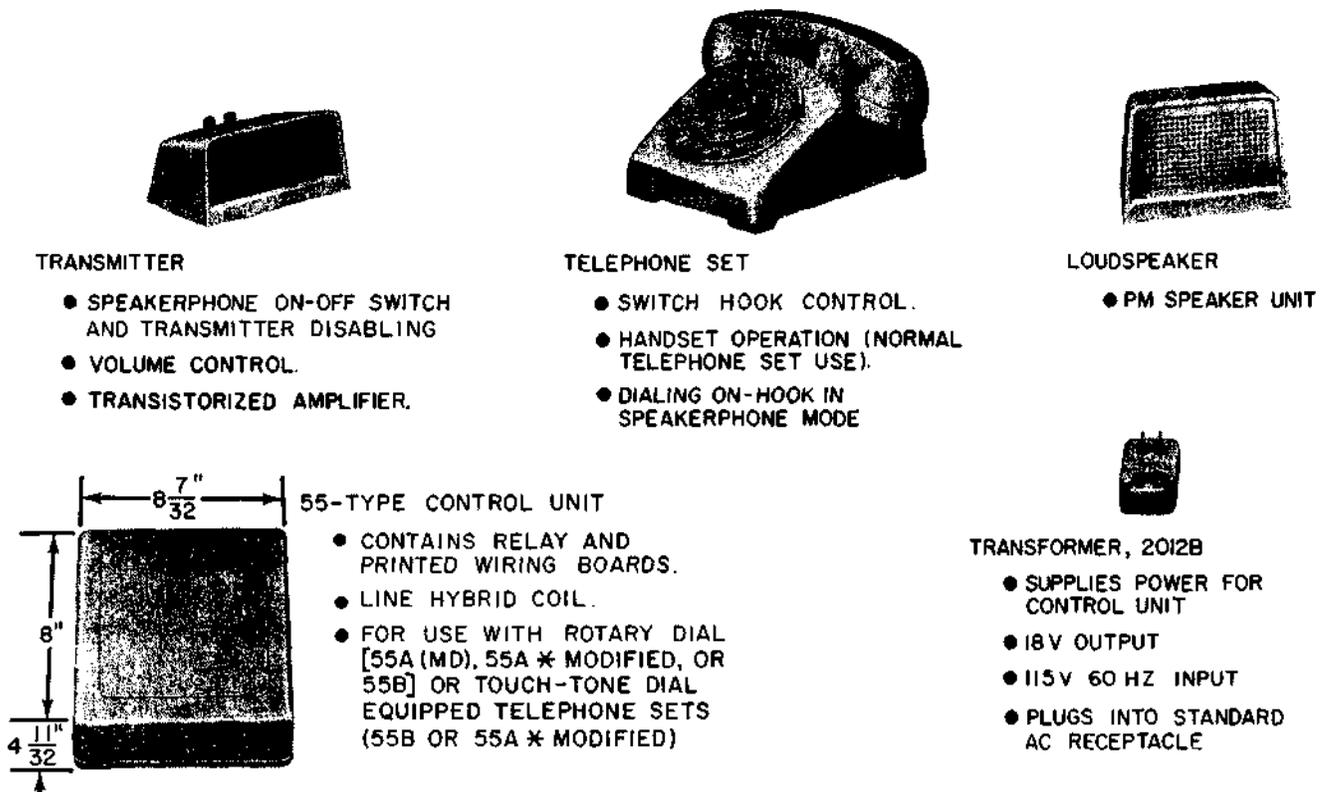

Fig. 1—Typical 3-Type Speakerphone System, Basic Components
**2.02** Components of the 3-type speakerphone system are shown in Fig. 1, along with features of each component.